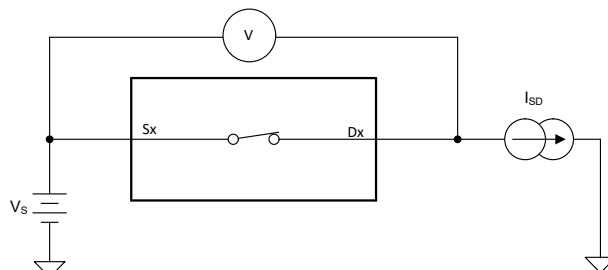

Figure 7-1. On-Resistance Measurement Setup
The on-resistance of a device is the ohmic resistance between the source (Sx) and drain (D) pins of the device. The on-resistance varies with input voltage and supply voltage. The symbol R_{ON} is used to denote on-resistance. Figure 7-1 shows the measurement setup used to measure R_{ON} . Voltage (V) and current (I_{SD}) are measured using this setup, and R_{ON} is computed with $R_{ON} = V / I_{SD}$.